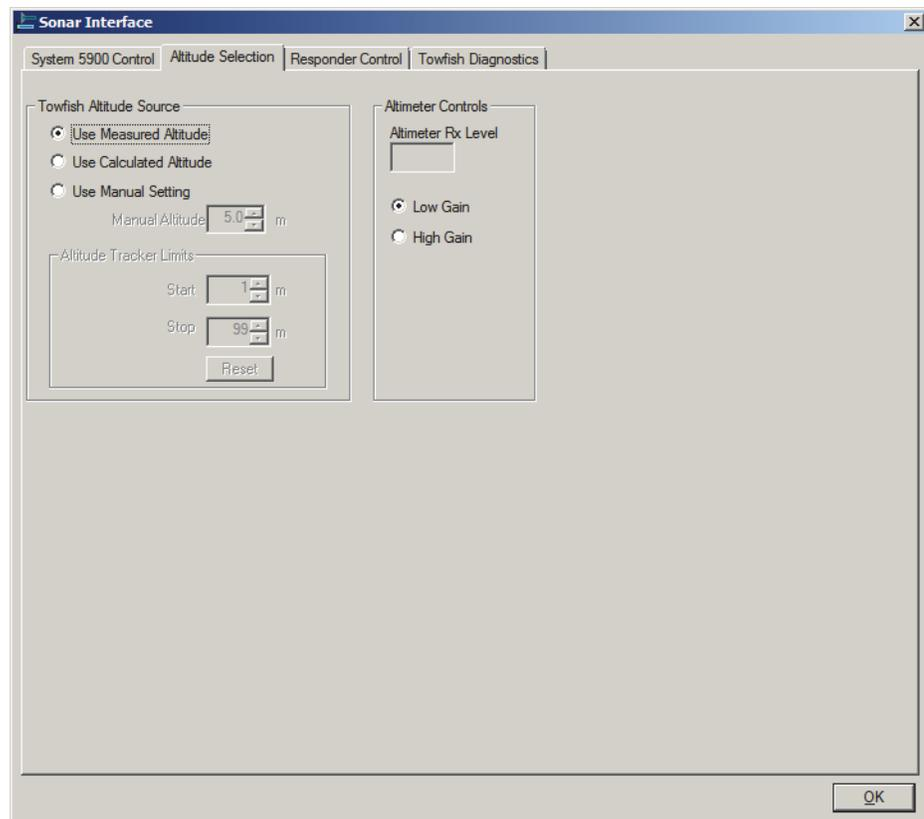

Figure 79: *The Sonar Interface Dialog Box, Series 5900 Sonar System—Altitude Selection Tab with the Use Measured Altitude Option Selected*
The *Altitude Selection* tab is shown in Figure 79. On this tab you can override the altimeter in an attempt to manually track the bottom in adverse operating conditions.
- Select **Use Measured Altitude** to run with the altimeter on. This is the default setting when starting SonarPro and should be used almost all of the time. When this option is selected, the **Altimeter Controls** area appears on the *Altitude Selection* tab as shown in Figure 79. During real-time operation these controls allow you to select the gain, low or high, of the altimeter receiver, and allow you to set the receive threshold level above which a received bottom echo is accepted.